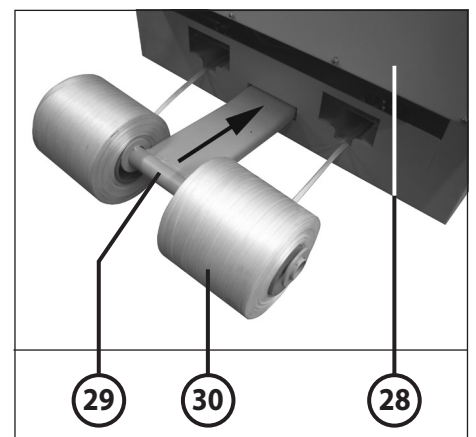

fig. 10
- 28 = switch cabinet (fig. 10)
- 29 = strap roll holder (fig. 10 and 21)
- 30 = strap roll (fig. 10 und 21)
INSTALLING THE STRAP ROLLS (30) (fig.10):